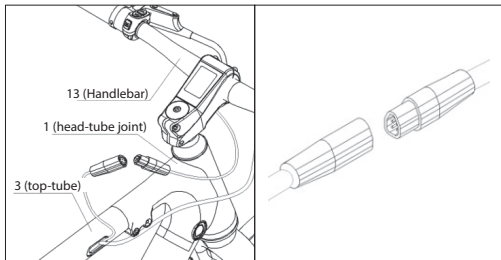
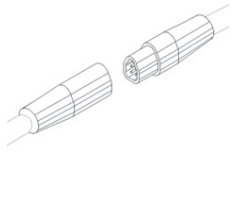

Figure 2-1
Figure 2-2
- Connect the display sensor cable, as shown in **Figure 2-1** and **Figure 2-2**.